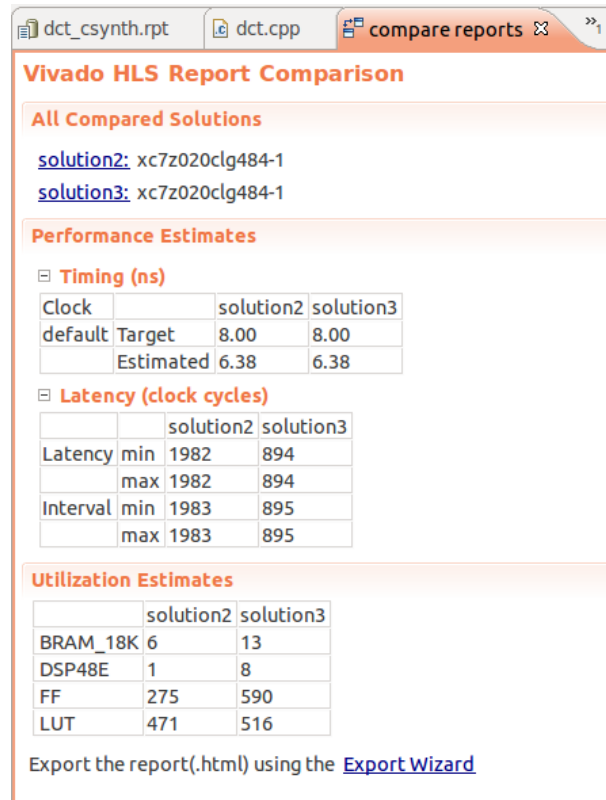

Figure 3.11.: Report comparison for solution3 vs solution2.
5. *C Synthesize* the design and open report compare perspective (Figure 3.11).